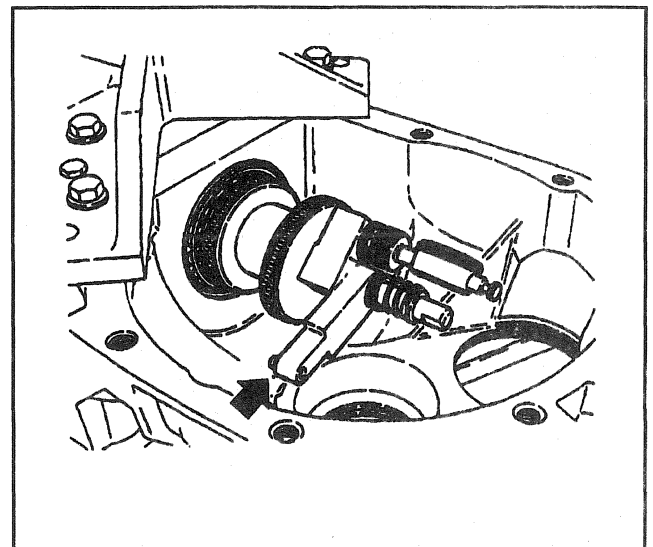

Figure 28—Measuring Pinion Depth-Button Moved Out of Bearing Bore
13. After the ZERO setting is obtained and verified, grasp the gauging arm by the flats and move the tool button out of the differential side bearing bore (Figure 28). Record the dial indicator reading.